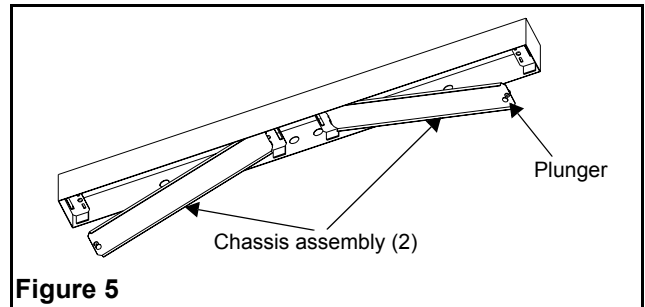

Figure 5
11. Put back in place the chassis assemblies into the back box by hinging the plates into the pivot holes and move the plates to the closed position. Push the plungers into the hold down grommets (see fig. 5).